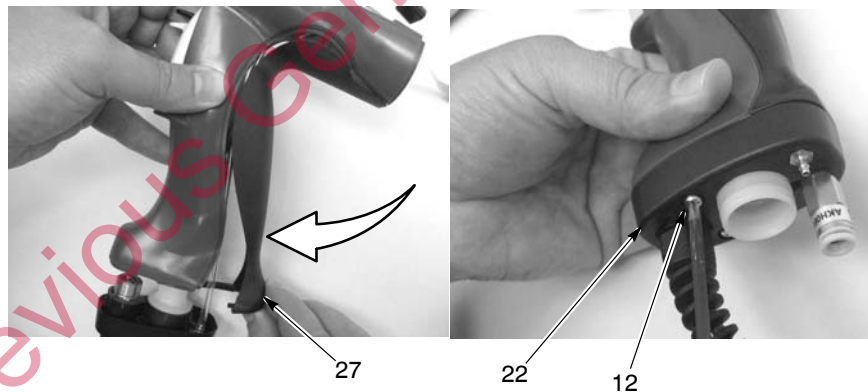

Figure 8 Installing Ground Pad and Handle Base
- See Figure 8. Hook the ground pad (27) behind the locator tabs on the rear of the handles and rotate the ground pad into position against the handle assembly.
- Push up on the handle base (22) to seat it in the handle, then secure the handle base to the handle assembly with the two M3 x 20 screws (12). Hand tighten the screws only.